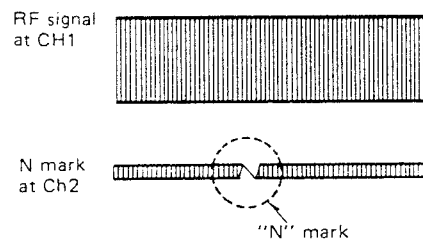

Fig: 4-14. RF signal and N mark
- SH-1 TP107 of SL-P7 or CN109 pin ③/RF test pin of SL-P8.
4. If RF signal and "N" mark are present no adjustment is required as shown in figure 4-14. If RF signal and "N" mark are not present, perform step 5.